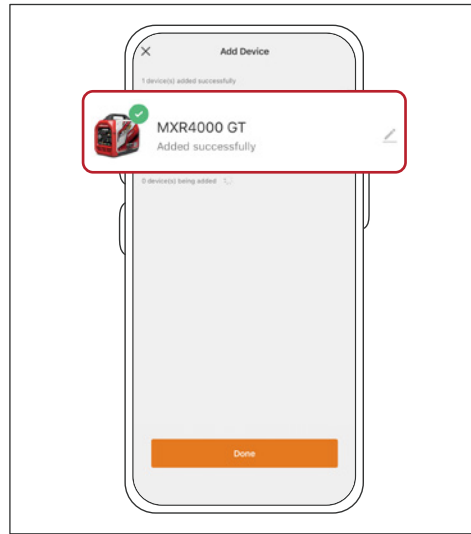

Fig.23
- 6 The generator added successfully (see Fig.23).